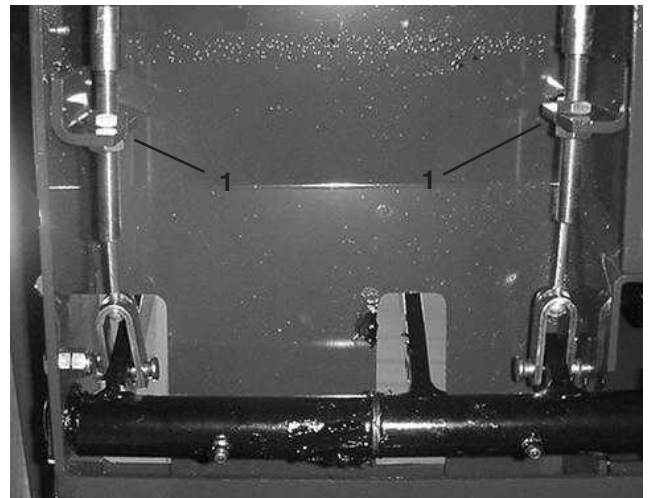

Figure 49
2. To reduce free travel of brake pedals — tighten the brakes — loosen front nut on threaded end of brake cable (Fig. 49). Then tighten rear nut to move cable